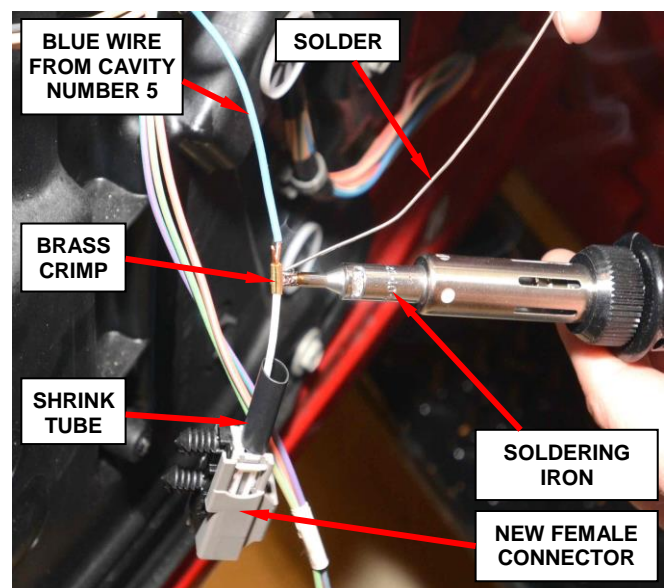

Figure 8 – Solder Brass Crimps
15. Solder the brass crimps to ensure a perfect electrical connection (Figure 8).